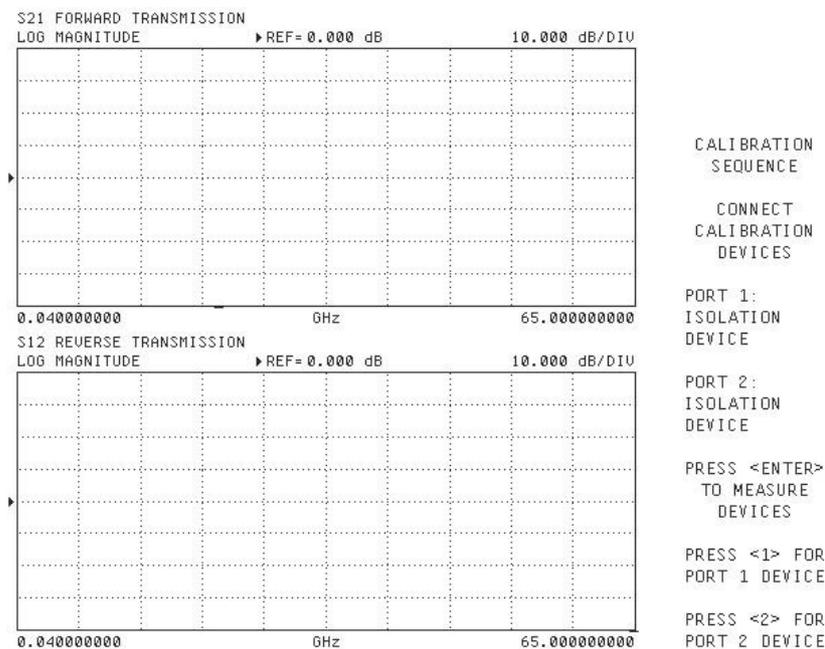

Figure 7-11. VNA Calibration Sequence Display
19. Verify that the VNA screen shows the trace display shown in Figure 7-11.